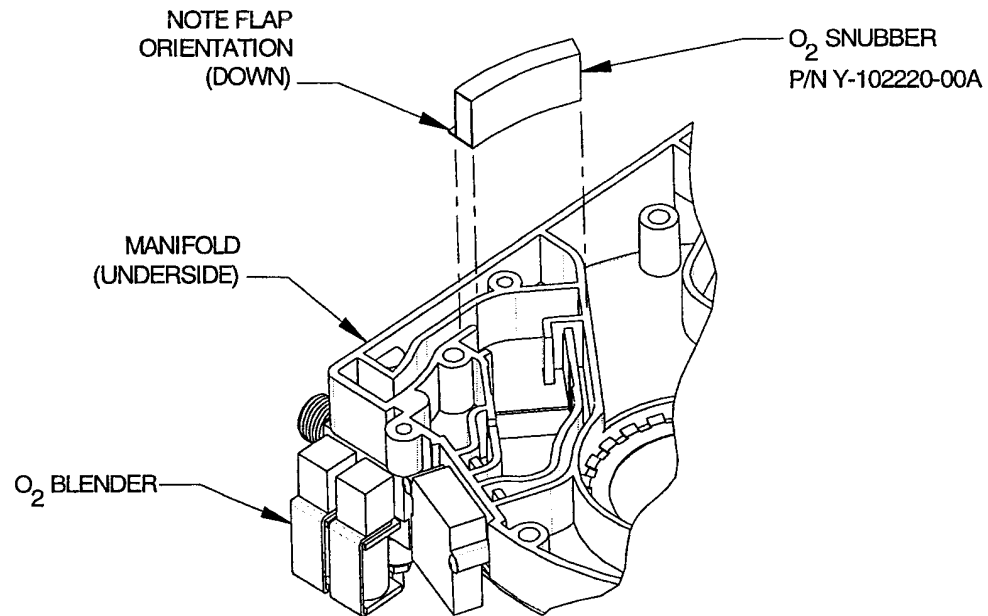

FIGURE 4-26.
1. Verify the O2 snubber is properly in place. See Figure 4-26. Note the flap orientation. The snubber is held in place by friction; **do not** apply any adhesives.